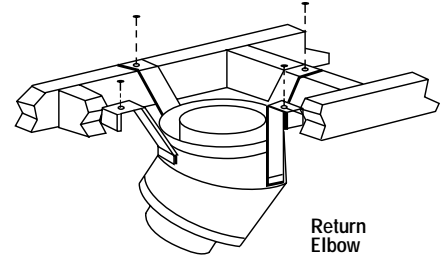

Figure 41
**Step 5.** Secure support straps to framing members by nailing under tension in shear (Figure 41).